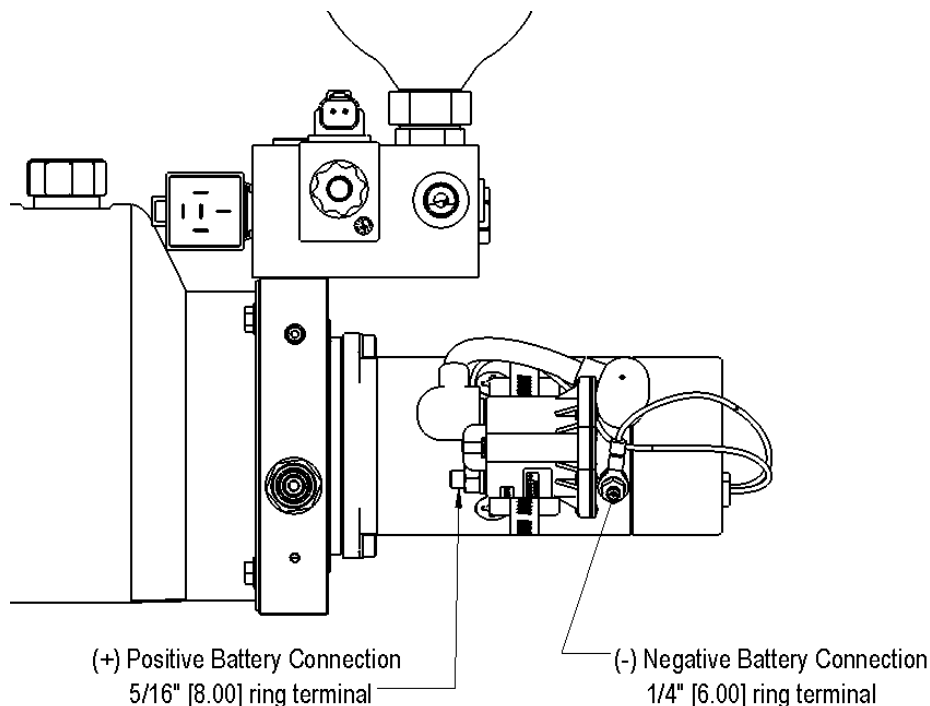

Figure 6
5.3.9. Connect the primary (+) positive and (-) ground terminals to power the HPU. Use battery cable capable of meeting minimum, twice the amperage requirement shown in the product specifications. Consult an electrician for the appropriate wire gauge. See Figure 6